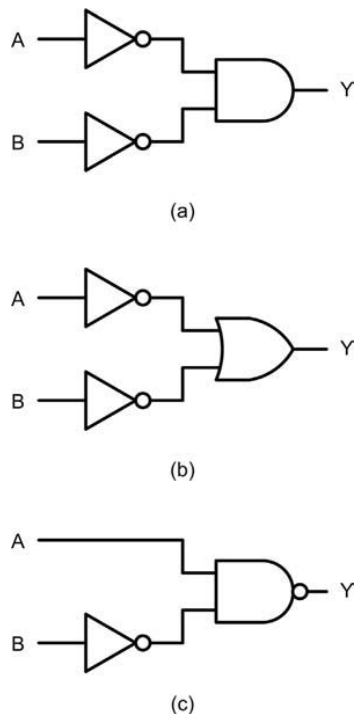

Fig.6.27. See Question 4
6.4. State the Boolean logic expression for the output of each of the gate arrangements shown in Fig.6.27 – opposite.